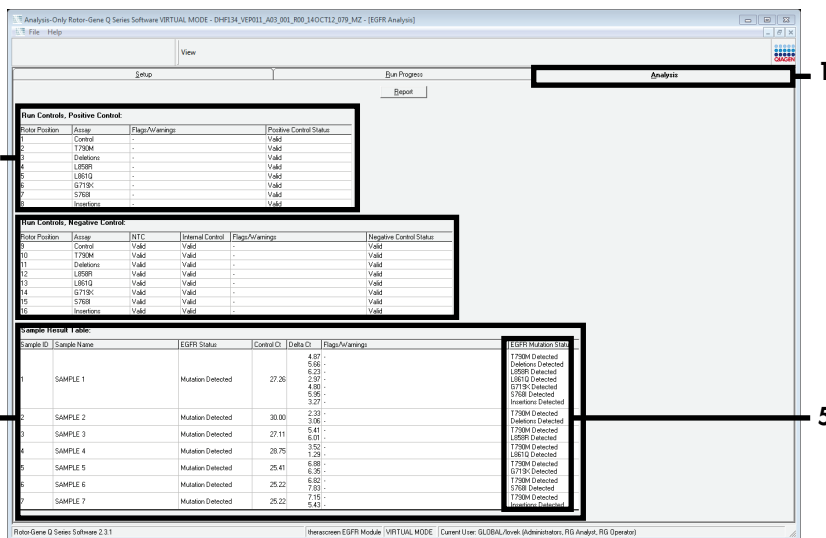

**Figure 16.** “The “Run Progress” tab.
**Note:** When the run starts, the "Run Progress" tab opens to show the temperature trace and remaining run time (Figure 16).